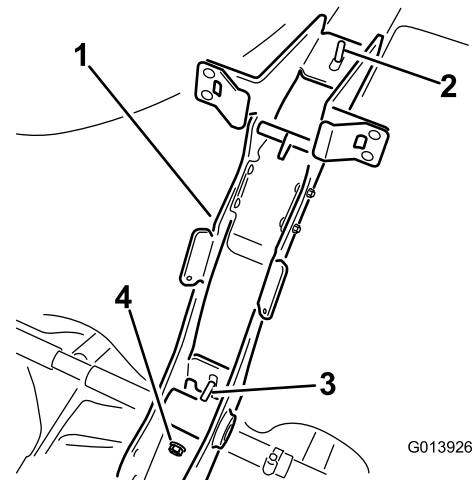

Figure 10
4. Install a lock nut over the lower exposed bolt passing through the frame to secure it to the tank strap (Figure 10).